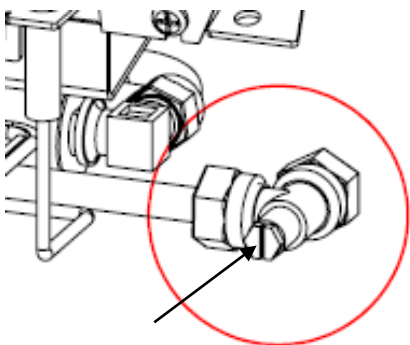

Figure 9: Inlet Pressure Test Point
1. Gas pressure at the appliance is measured via the T-piece going to the control valve (circled in figure 9).
The supply pressure test point (shown in figure 9) is measured at the burner inlet point.